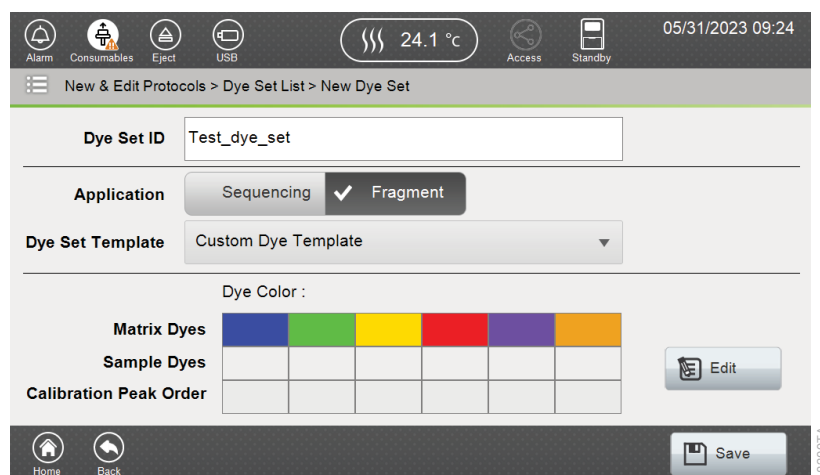

Figure 143. 'New Dye Set' screen.
3. Enter a Dye Set ID and select the appropriate Application and Dye Set Template (Figure 143). Select **Edit**.